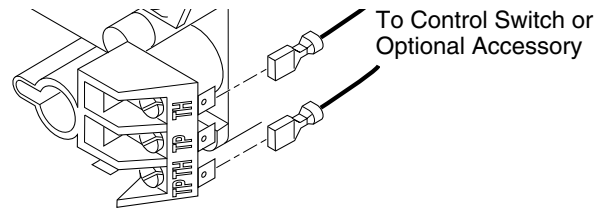

Figure 33 - Control Valve Terminals
1. Connect one terminal of 25 ft. wire for the wall switch to the TPTH terminal on the valve. Connect remaining wire terminal to the TH terminal on the valve. Make sure that the wire terminals are in the positions on the unit as pictured in Figure 33. If wires are not connected as shown, the switch will not work.
3. Connect one terminal of the wire for the wall thermostat to the THTP terminal on the valve. Connect remaining wire terminal to the TH terminal on the valve. Make sure that the wire terminals are in the positions on the unit as pictured in Figure 33. If wires are not connected as shown the thermostat will not work.
- Disconnect wires from THTP and TH on control valve that lead to the switch (see Figure 33, page 15). Discard switch plate, screws, and nuts.
- Connect the wires from the receiver to the valve at TH and THTP (see Figure 33, page 15).